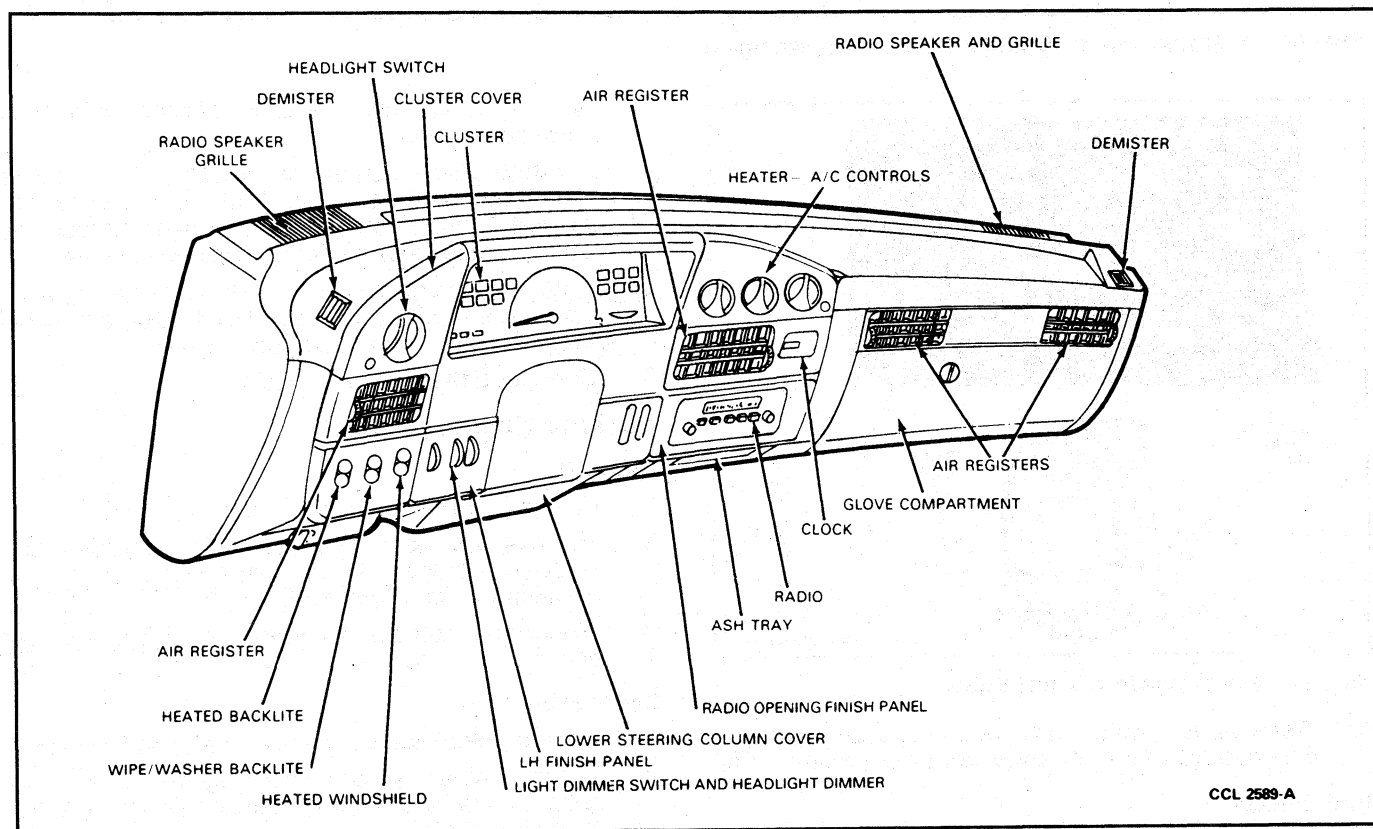

FIG. 19 Instrument Panel Assembly, Front View—Taurus
4. Remove four Torx® head screws retaining control head. Pull control head away from instrument panel (Fig. 19) into a position which provides access to rear connections.